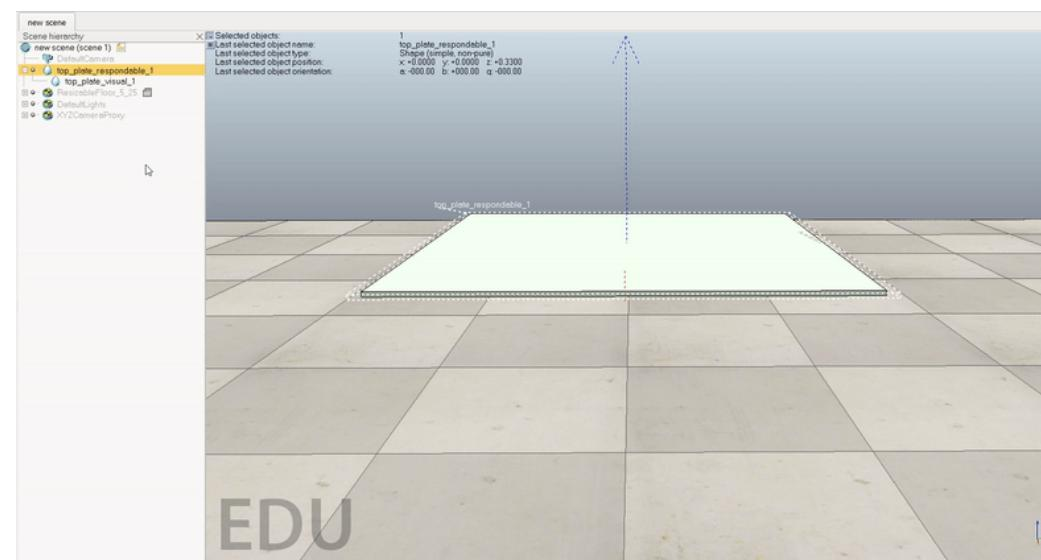

Figure 3: Make an object renderable in CoppeliaSim scene.
- Refer the gif in Figure 3 to learn how to make an object **renderable** in CoppeliaSim scene.